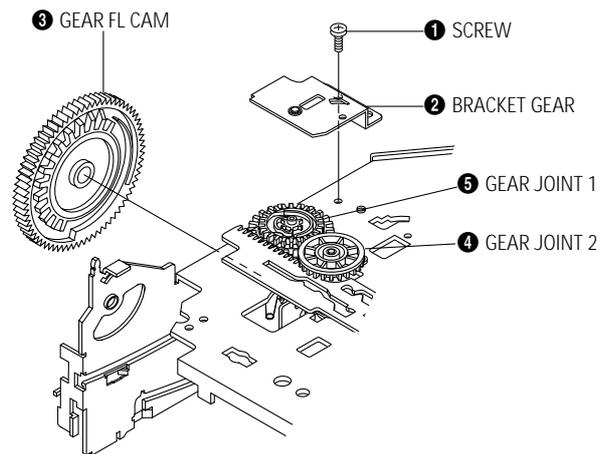

Fig. 4-13 Bracket Gear, Gear FL Cam, Gear Joint 1, 2 Removal
- 1) Release the Hook [A] in the direction of arrow and, remove the Holder Worm ❶.
- 2) Remove the Gear Worm ❷.
- 3) Remove the Gear Worm Wheel ❸. (After removing the Gear FL Cam as shown Fig. 4-13)